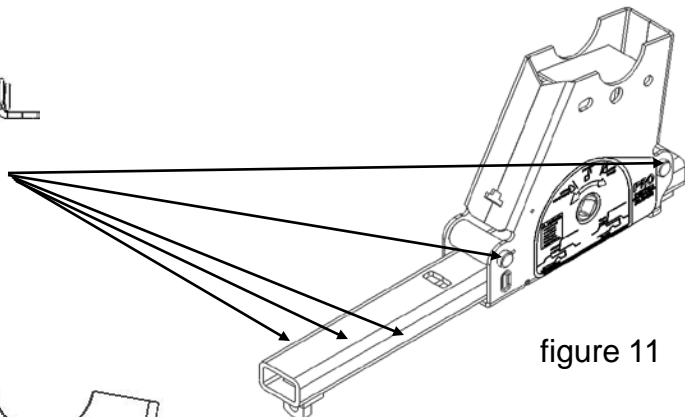

figure 11
7. Coat top & side surfaces of slide tube and roller holes (5 places) in each slider assembly with all purpose grease or teflon lube, use as needed (see figure 11). Repeat this application monthly during use.